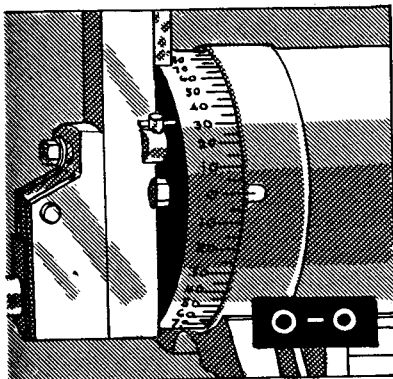

FIG. 428
1. Examine the setting of the tool head (Fig 428) and, if it is not exactly in the vertical position, make the necessary adjustment. This is important, for if the tool is not fed down in a position that is exactly perpendicular, it will bind in the slot. An alternate method of setting the tool head with a square is explained on page 213, steps No. 2 to No. 5.